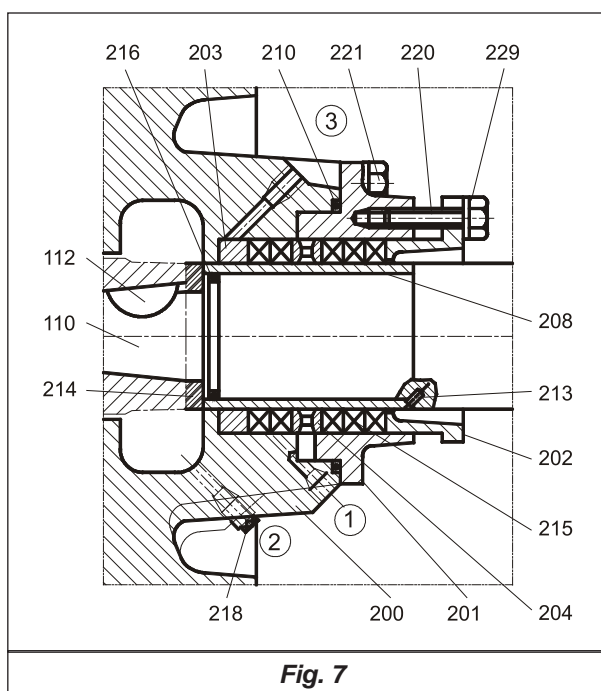

Fig. 7
1.2.9 Service Connection (Fig. 7)
fluid to be pumped is sewage water or water with solids in suspension (Fig. 7).
In the pumps supplied with stuffing box, the packing material has been selected to a determinate application. Prior to the pump starting, verify the packing conditions, removing the stuffing box gland (202) (Figs. 7, 8 and 9). If the pump is not going to be used within the first 60 days after its dispatch, a packing inspection is needed. If the period of disuse is longer, the packing should be checked and replaced when its lubricant properties are lost or dryness occurs. In all cases it is important to remember to inspect the packings before pump starting.